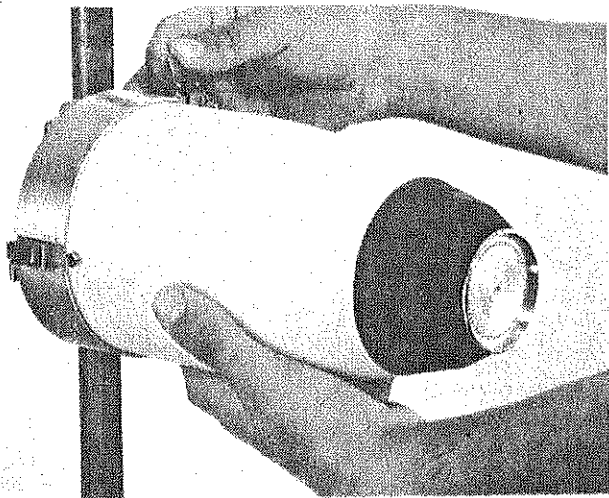

FIG. 1
1. Unlatch three draw latches while carefully supporting the shroud (Fig. 1).